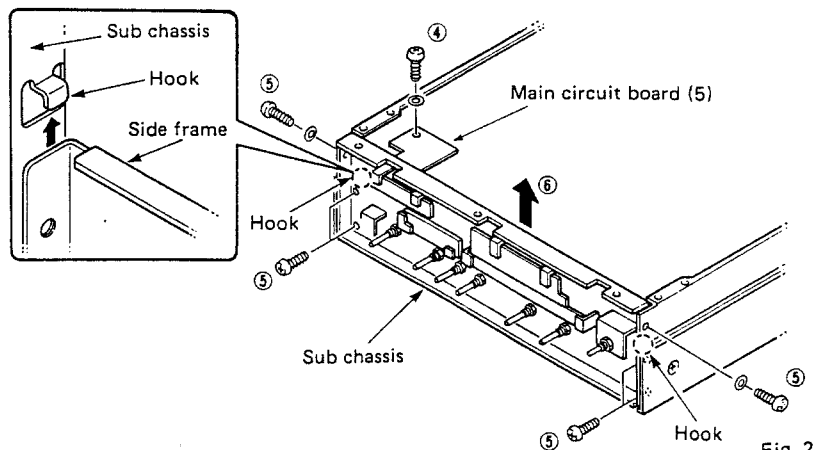

Fig. 2
4. Removal of Equalizer Circuit Board (2)
a. Remove 7 screws (④ and ⑤) in fig. 2.
b. Pull sub chassis up. (⑥) in fig. 2.